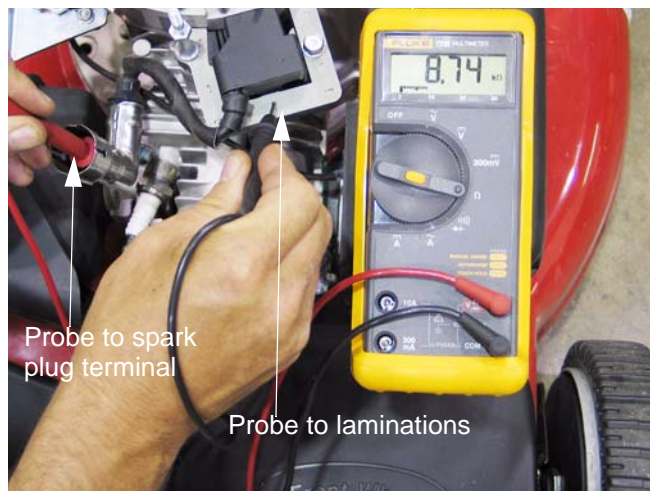

Figure 7.22
7.22. Resistance in the secondary windings of the ignition module, measured between the spark plug terminal and the laminations, was observed to be in the 8K-9K $\Omega$  range. See Figure 7.22.